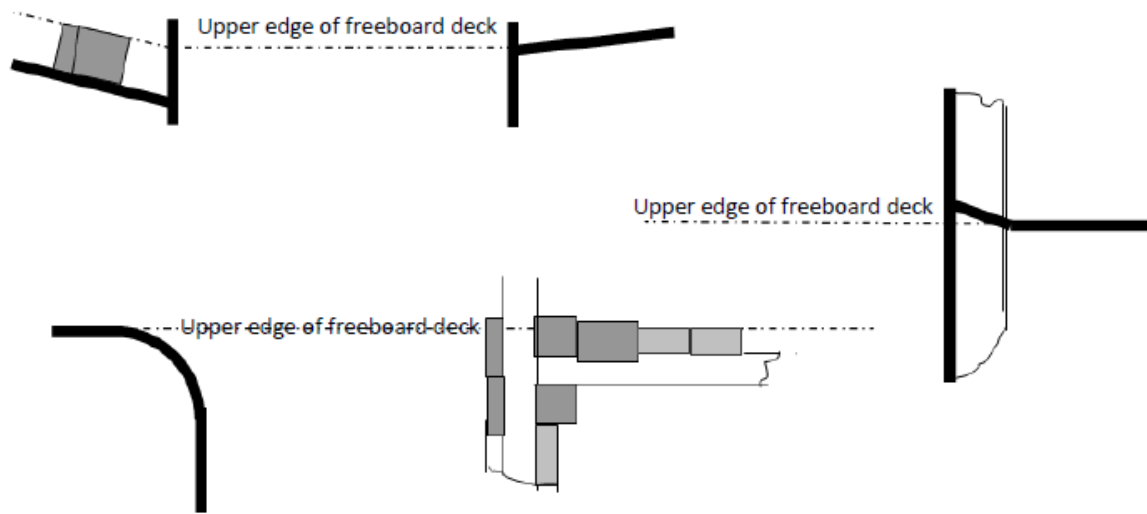

Figure 1
- Distance from deck line to top of freeboard deck at side (see figure 1)